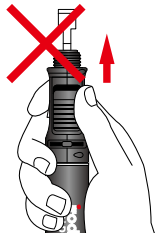

Fig.4
- Do not ignite torch when Tip Assembly is not screwed on. (Fig. 4)